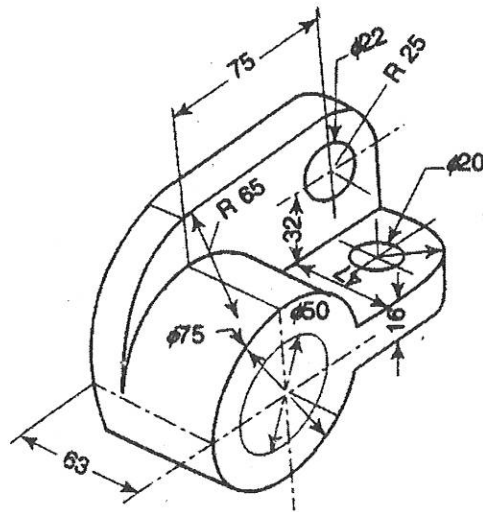

Fig. 1
- (b) Discuss in detail about the basic elements and building operators of B-Rep scheme required for building the following solid model Fig. 1.